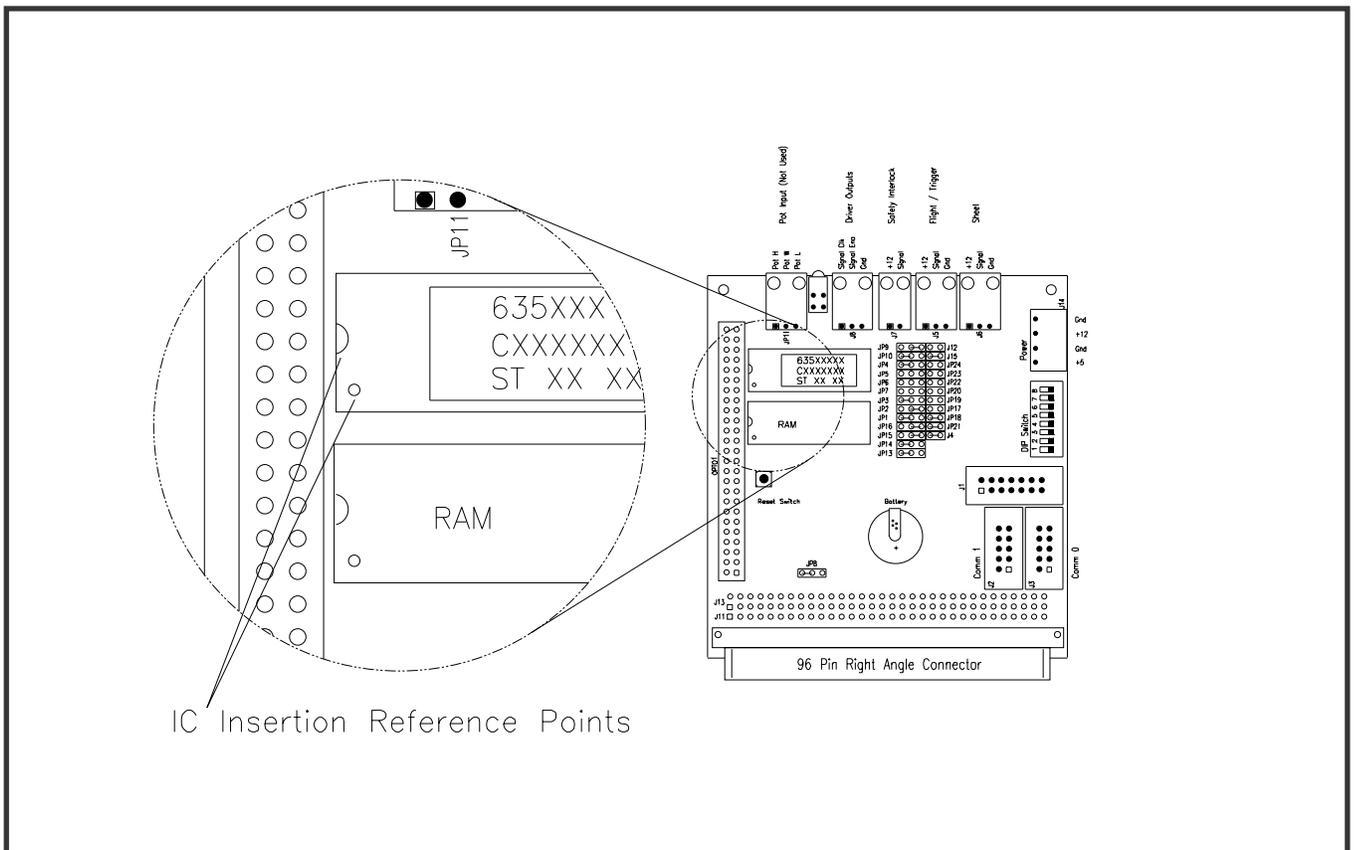

Figure 8-1. EPROM Location on CPU Board
- a. Verify the orientation (as shown in figure 8-1). The notch should be on the side closest to the 50 pin ribbon cable connection.